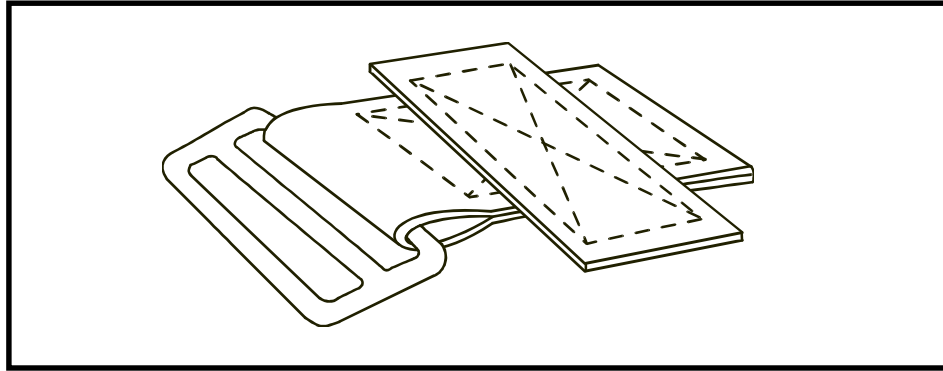

Figure 13-7. Reinforcement webbing
(1) Webbing. Sew another piece of webbing across the chape as reinforcement (Figure 13-7). Sew the reinforcement in place the same way the chape was sewn in place.